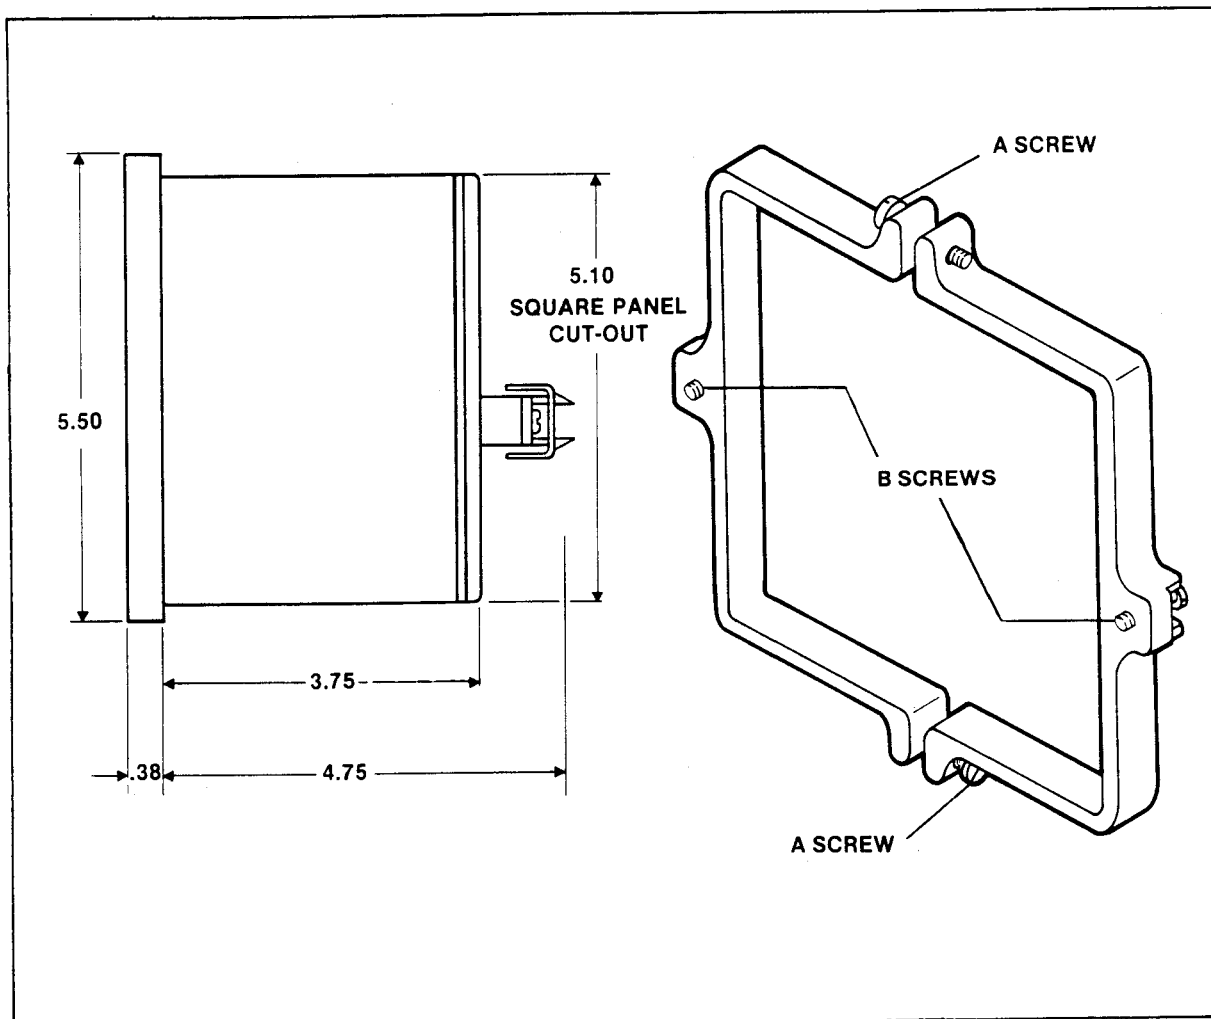

Figure 2. Detailed profile of the MK 575 (left) and isometric view of clamp ring (right).
1. Loosen the clamp ring (see two "A" screws in Figure 2).
5. Seal the front flange firmly against the panel by tightening the two "B" clamping screws hand tight (see Figure 2). Do not overtighten these screws. Overtightening will cause the clamp ring to slip.